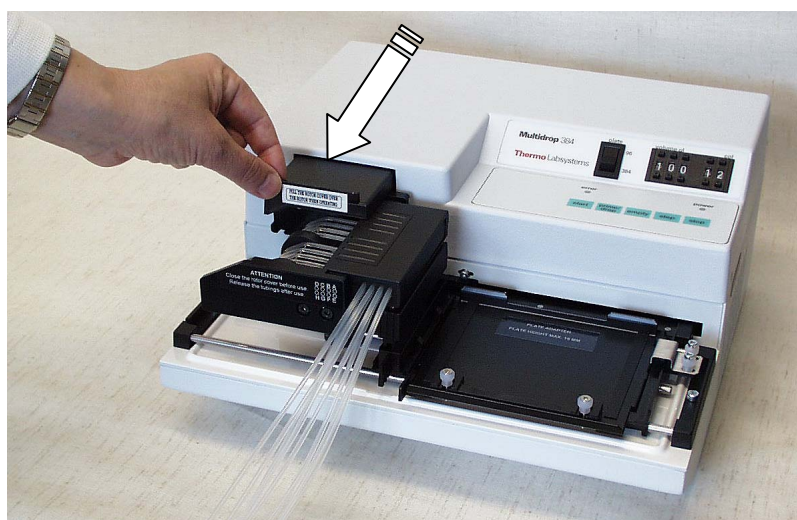

Fig. 6.6 Pulling the rotor cover over the rotor
- PULL THE ROTOR COVER OVER THE ROTOR** (*Fig. 6.6*). The plate carrier will then return to the furthest right of the instrument, that is, the home position. The microswitch controls that the cover is properly placed over the rotor. The Multidrop 384 is now ready for priming.